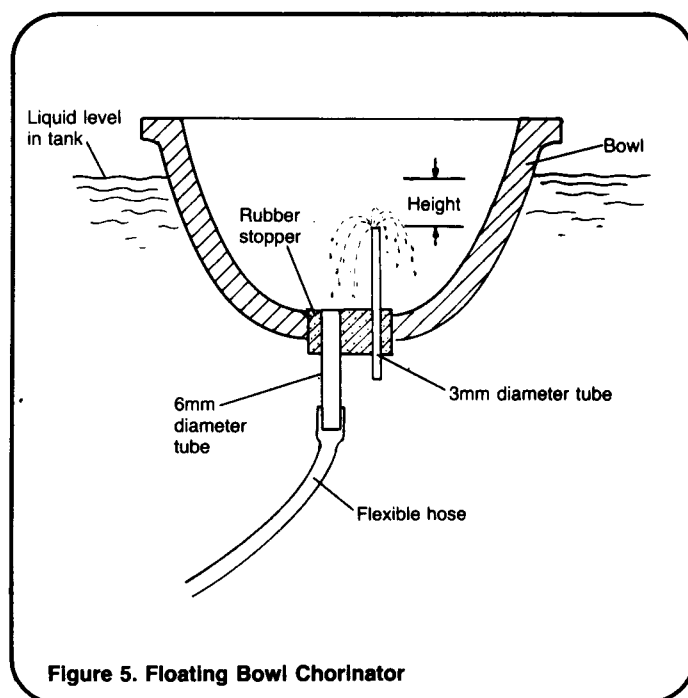

Figure 5. Floating Bowl Chlorinator
5. Secure one end of a nylon string to the bottom of the tank. Take the free end and thread it through the 3mm tube passing through the center of the stopper. Pull the string as tight as possible, and attach it to a wooden cross piece over the top of the barrel. Secure it well so it can be separated from the cover to refill the barrel without disconnecting the bowl. The string serves as a guide for the bowl so that it does not hit the sides of the tank. Figure 5 shows a bowl without a guide string. The chlorinator is easier to make without the guide string, but the bowl may drift to the sides of the barrel. If there are no ridges or plugs in the sides that could keep the bowl from moving downward as the chlorine solution is used, the chlorinator will work.